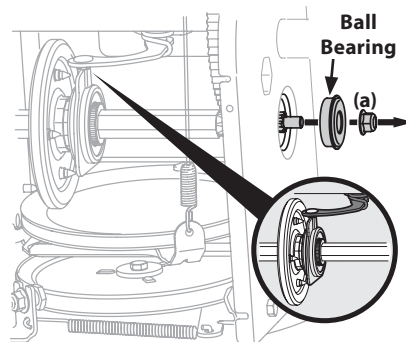

Figure 4-21
- Carefully remove hex nut (a) which secures hex shaft to frame and lightly tap the shaft's end to dislodge ball bearing from right side of frame. See Figure 4-21.
NOTE: Make sure shift lever pin is in place in bearing housing. See Figure 4-21 inset.